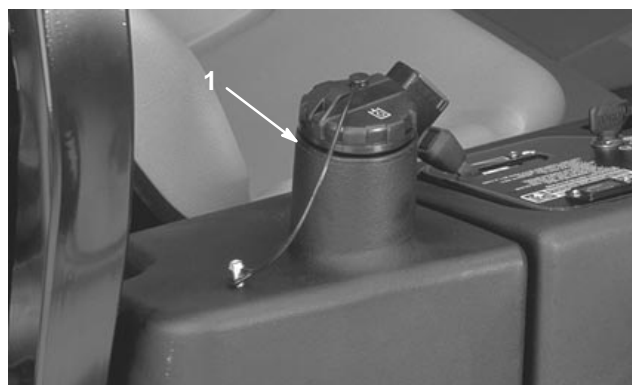

Figure 54
3. Fill the reservoir (Fig. 54) with approximately 3.5 U.S. gallons (13.2 l) of hydraulic fluid; refer to Checking the Hydraulic System, page 17.